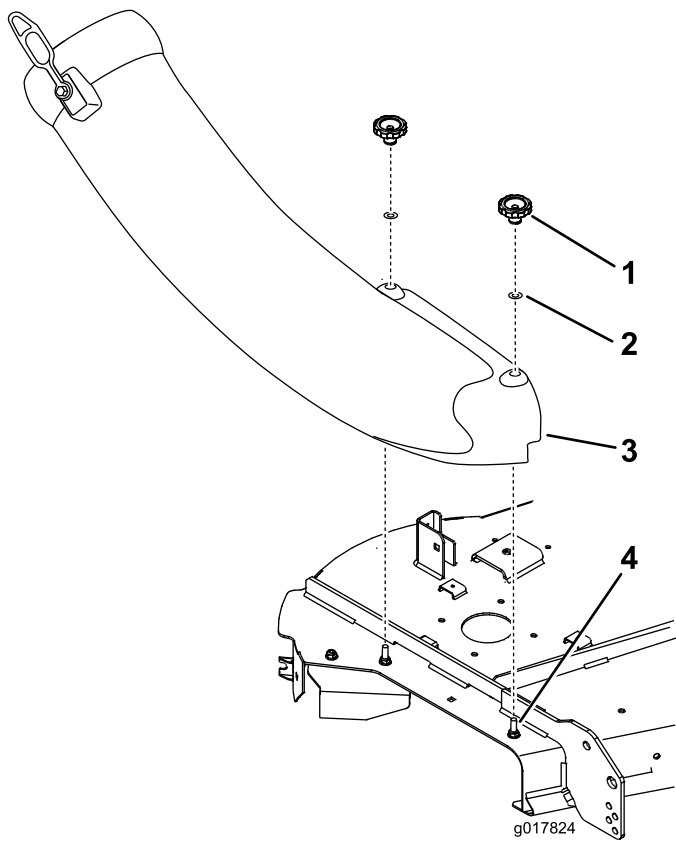

Figure 26
5. Align the holes in the chute and install it onto the bolts. Secure the chute to the mower deck with the 2 knobs and flat washers (5/16 inch) (Figure 26).